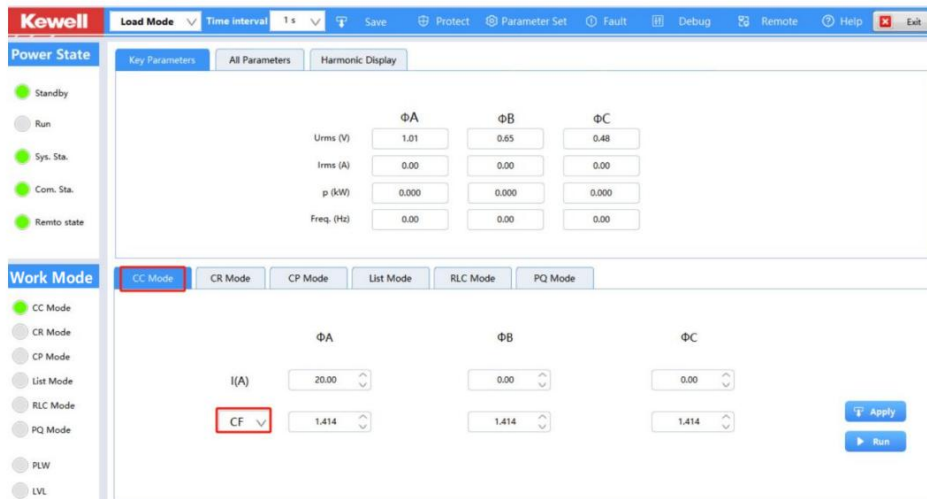

Fig. 4-19 Load mode
The G6000UG Series is compatible with general AC load functions, supporting multiple output modes including constant resistance (CR), constant current (CC), constant power (CP), and power-quality (PQ). It allows for setting power factor and crest factor, and through List programming, multiple combined steps can be preset to achieve DUT dynamic loading, as shown in Figure 4-19.